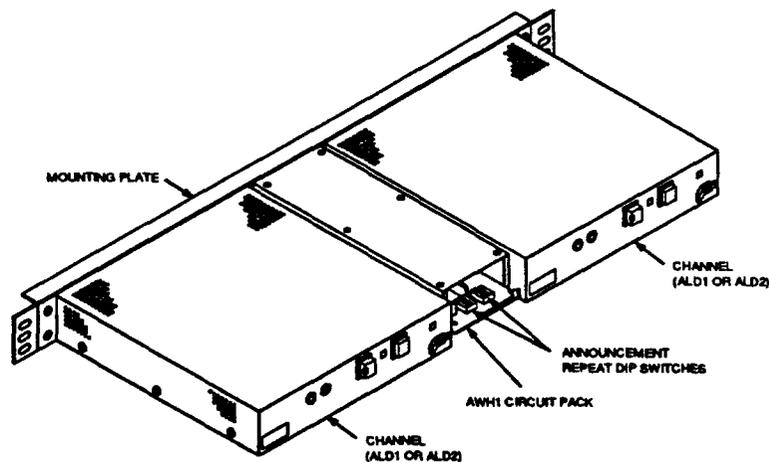
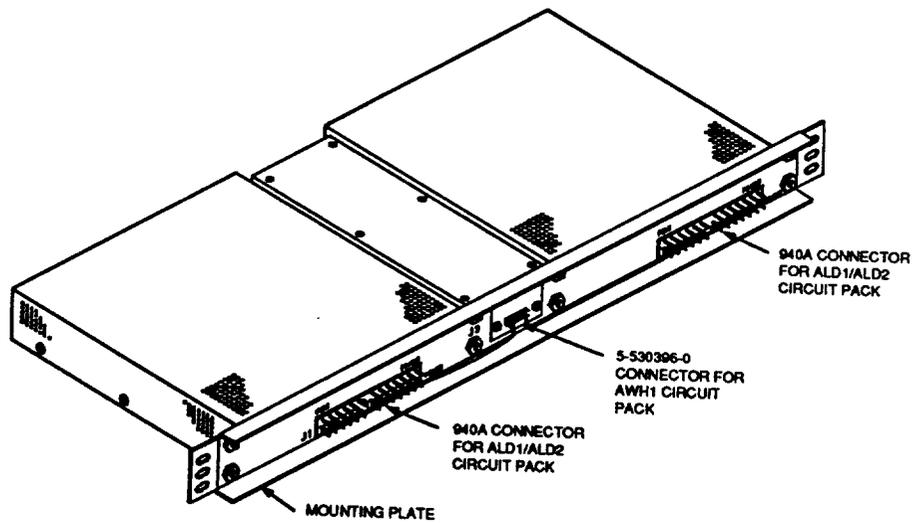

Figure 5. 14A Announcement System Equipped With Two Channels and AWH1 Circuit Pack for 2-Wire Telephone Line Connection
Figure 7. 14A Announcement System Rear Mounting Plate
3.01 The 14A Announcement System is 2 inches high by 23 inches wide by 11½ inches deep, including the mounting plate and apparatus mountings for two independent channels (Figures 5 and 6). The ALD1/ALD2/ALD5 circuit pack connects to 940A connectors mounted on the mounting plate. The AWH1 line interface circuit connects to an AMP 5-530396-0 connector mounted in the AWH1 apparatus mounting (Figure 7). The 940A connectors connect the channel to the power and distribution trunks for announcement trunk-type service. For line service, connection to the lines and ALD1/ALD2/ALD5 circuit pack is through the AMP 5-530396-0 connector.